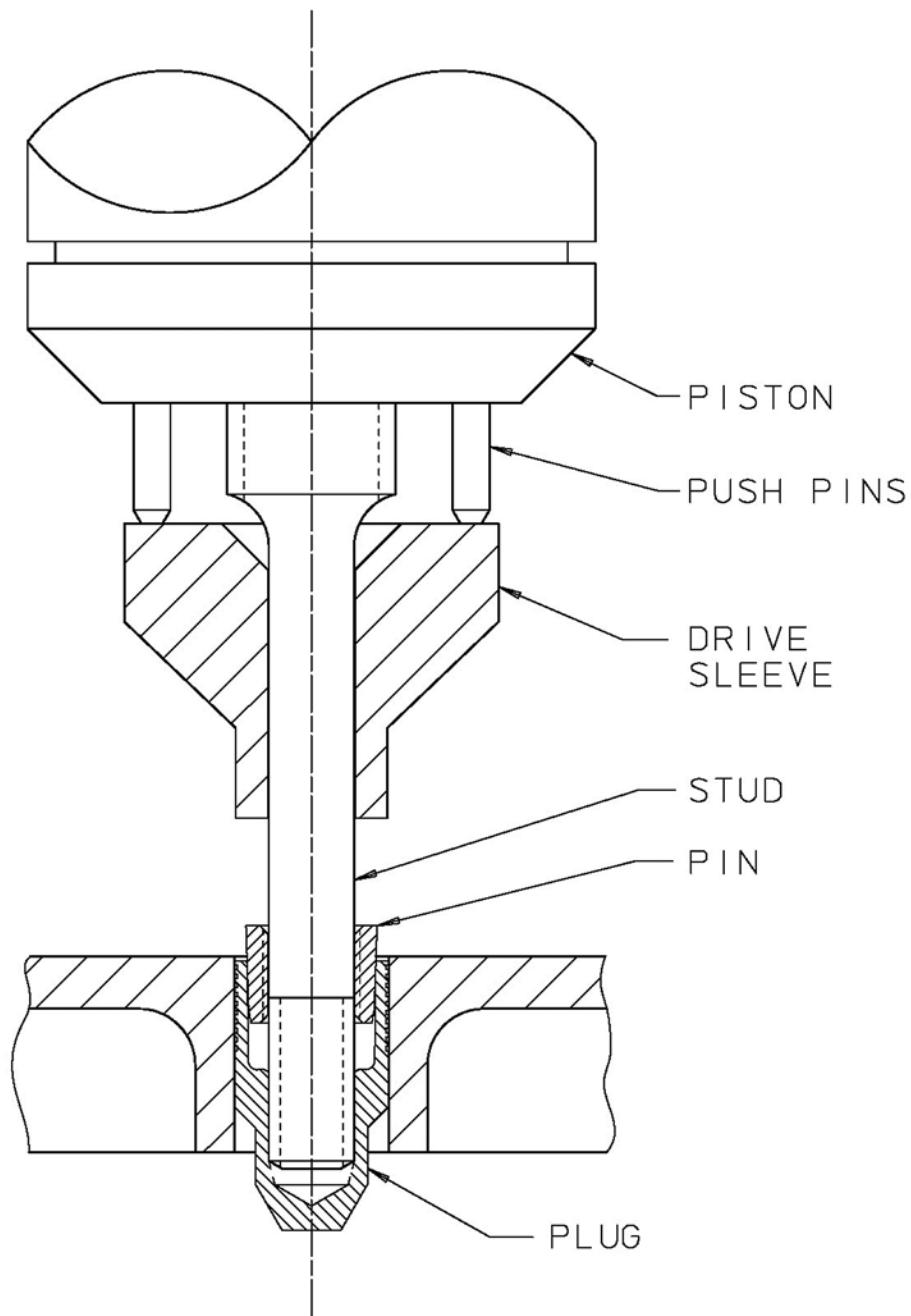

FIGURE 14
4. Insert plug into hole to be sealed while driving piston is hand held to locate plug at proper depth (see Figure 14 on Sheet 43).